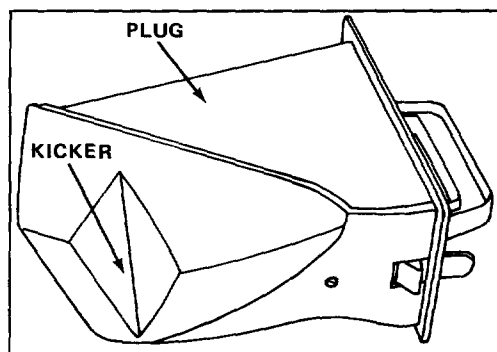

Figure 7
- C. A special plug which snaps into the mower's discharge tunnel (a fifth kicker is on the plug) (Fig. 7)
Although the plug is used only for recycling, it is possible to mow without using the plug by closing the discharge tunnel door. However, your recycling will be much more effective if you use the plug. It has an additional kicker (Fig. 7) that helps drive the clippings down into the grass.